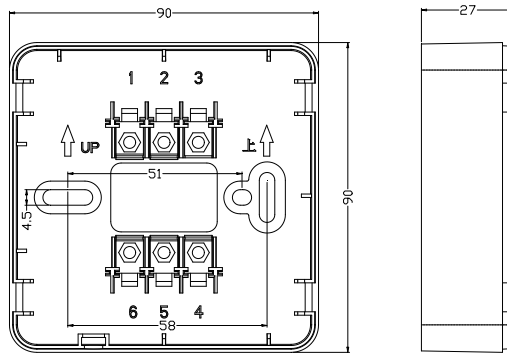

Figure 6 The supporting base of Manual Call Point
The installation of the manual alarm requires the use of a matching base. The supporting base is shown in Figure 6. The external dimensions are 90mm x 90mm x 27mm (L x W x H), the diameter of fixed holes is Ø4.5mm, the spacing of fixed holes is 45mm to 63mm, and the pipe inlet wires are routed through the lower part of the base.
- According to the construction drawings, use two M4 screws to fix the supporting base to the specified position through the fixing holes shown in Figure 6 (there should be no barrier at least 20cm on one side of the resetting hole), and confirm that the base is securely installed;